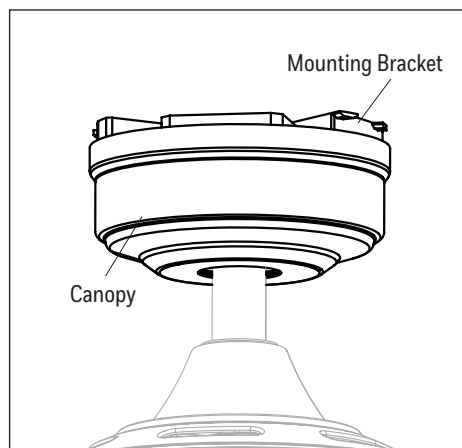

Figure 5.2
- Lift the canopy over the mounting bracket and rotate clockwise until secure (Figure 5.2).